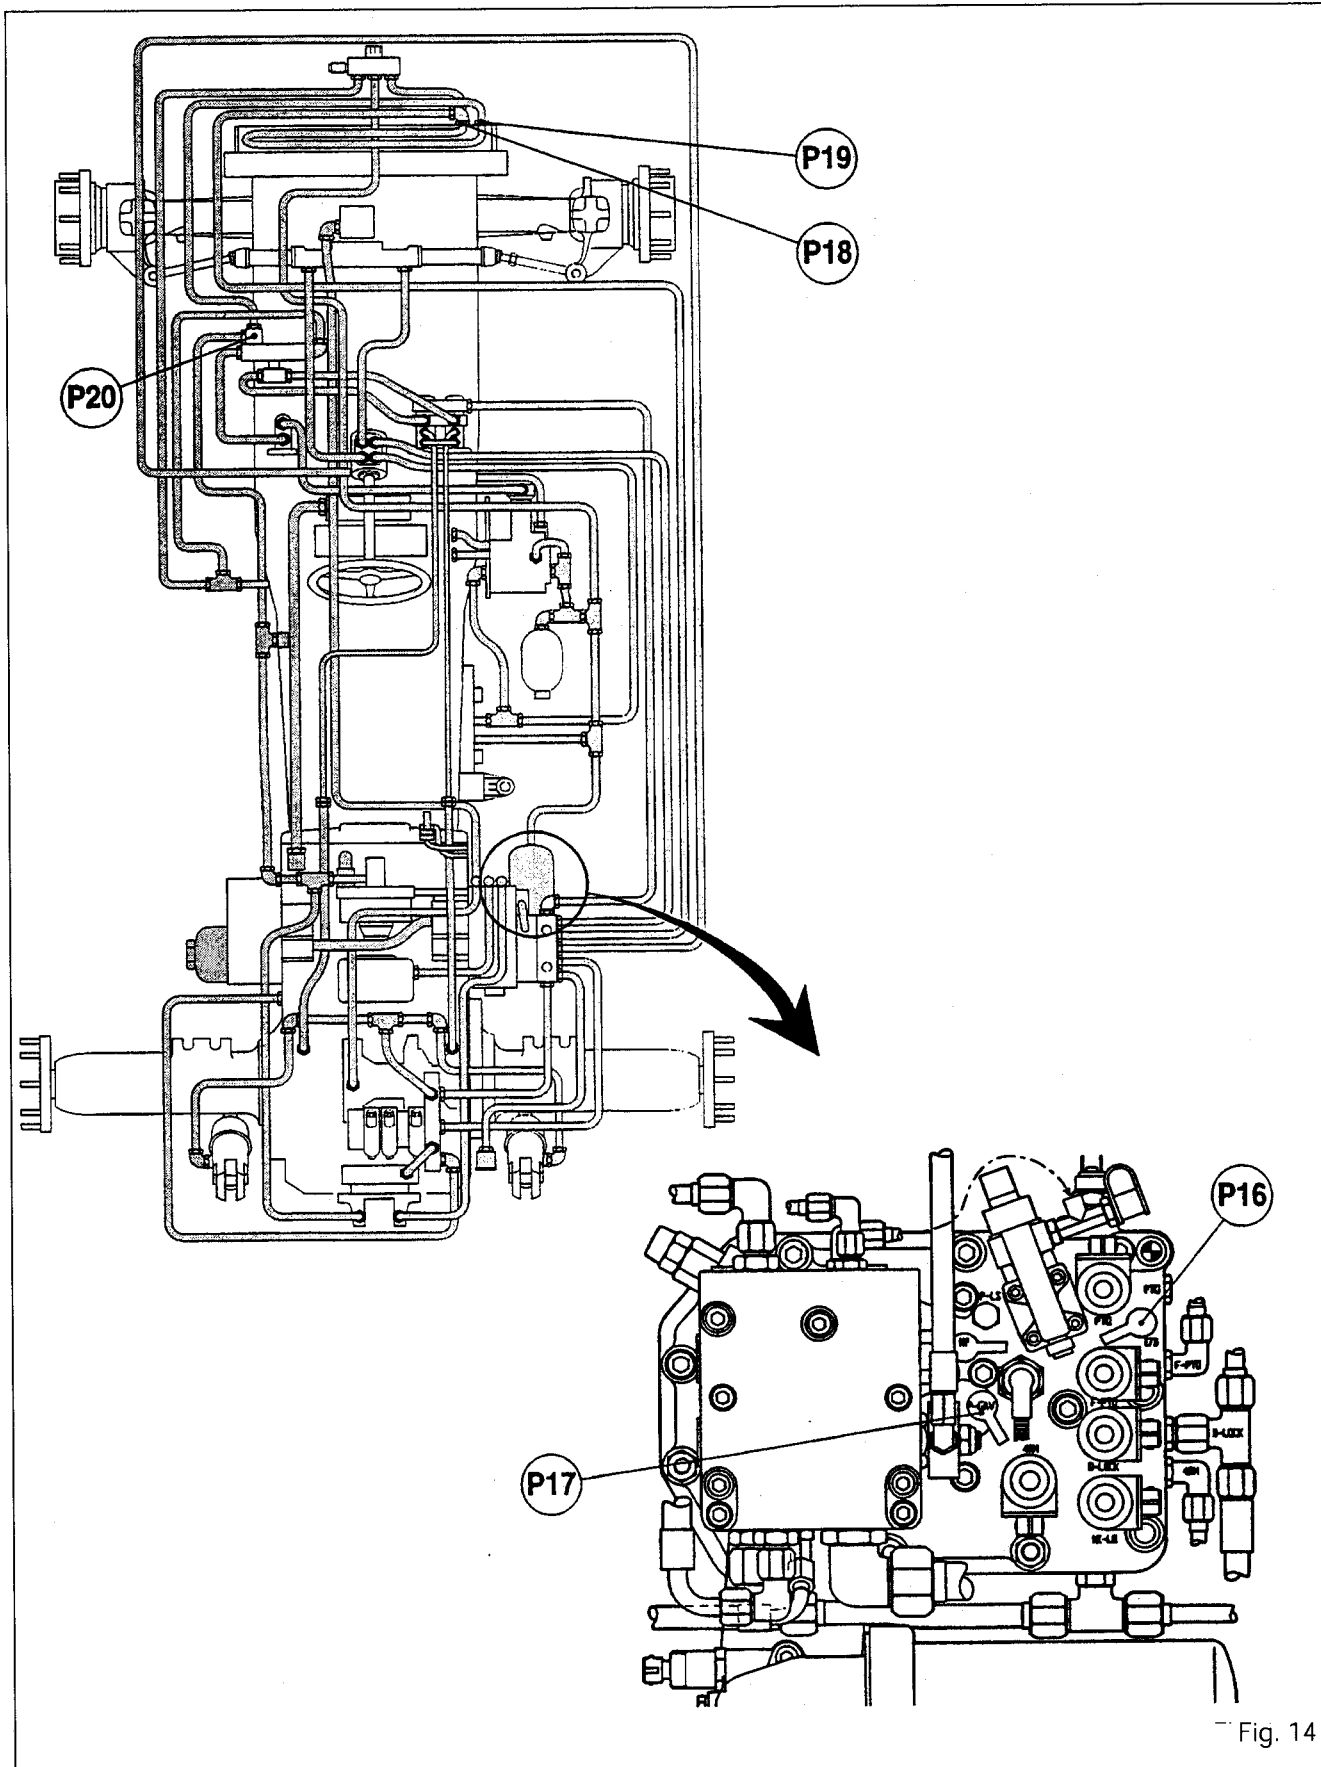

Fig. 14
- As shown in Figure 14, connect a pressure gauge to the cooler inlet to check **P18** and onto the cooler outlet to test **P19**.
- Connect a pressure gauge to the connector located under the manifold to check **P20** (Fig. 14).